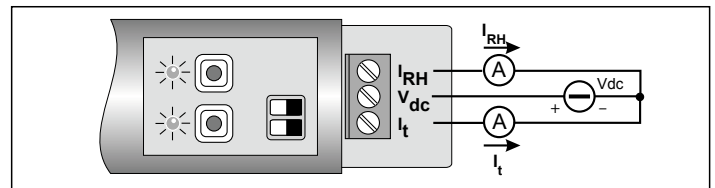
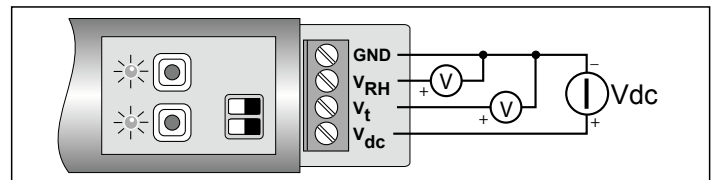

Fig. 5
Fig. 6
- Connect the wires to provide the instrument with power supply, as shown in the connection diagrams (Fig. 5: HD9008TR and Fig.6: HD9009TR).